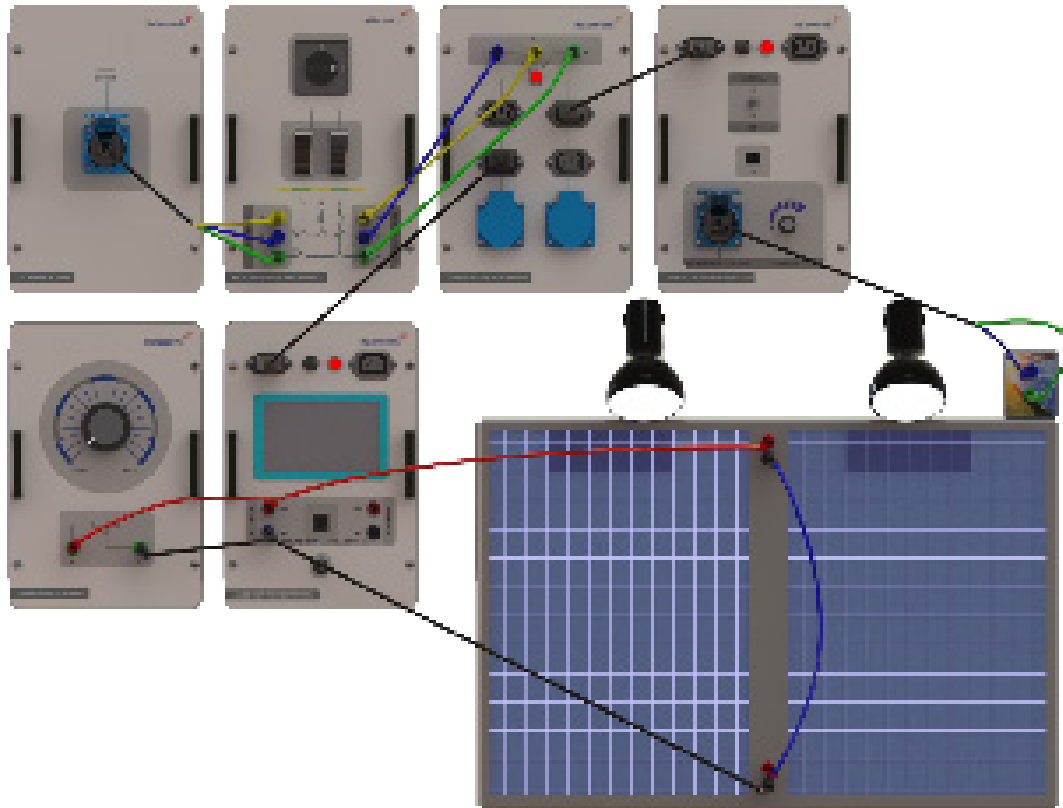

Figure-2
- 4) Set the Electronic Potentiometer Module to 200Ω and connect it to the series panel discharge ends as shown in figure-2. Measure the loaded output voltage and record the value in chart-1.